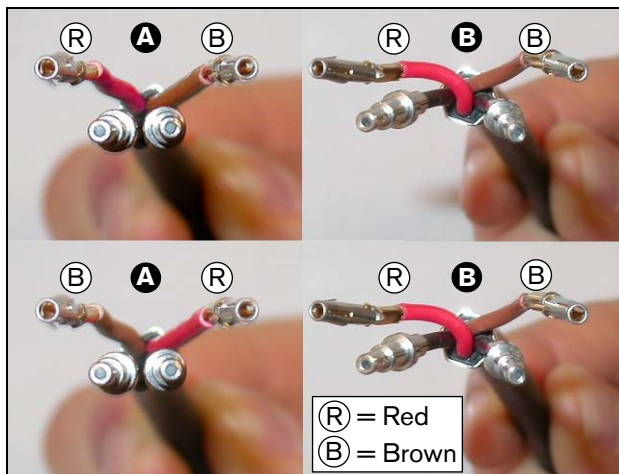

figure 3.27: Positioning the copper wires and fibers
- 26 Check if the copper wires and the plastic optical fibres have been positioned in the correct way (see figure 3.27).